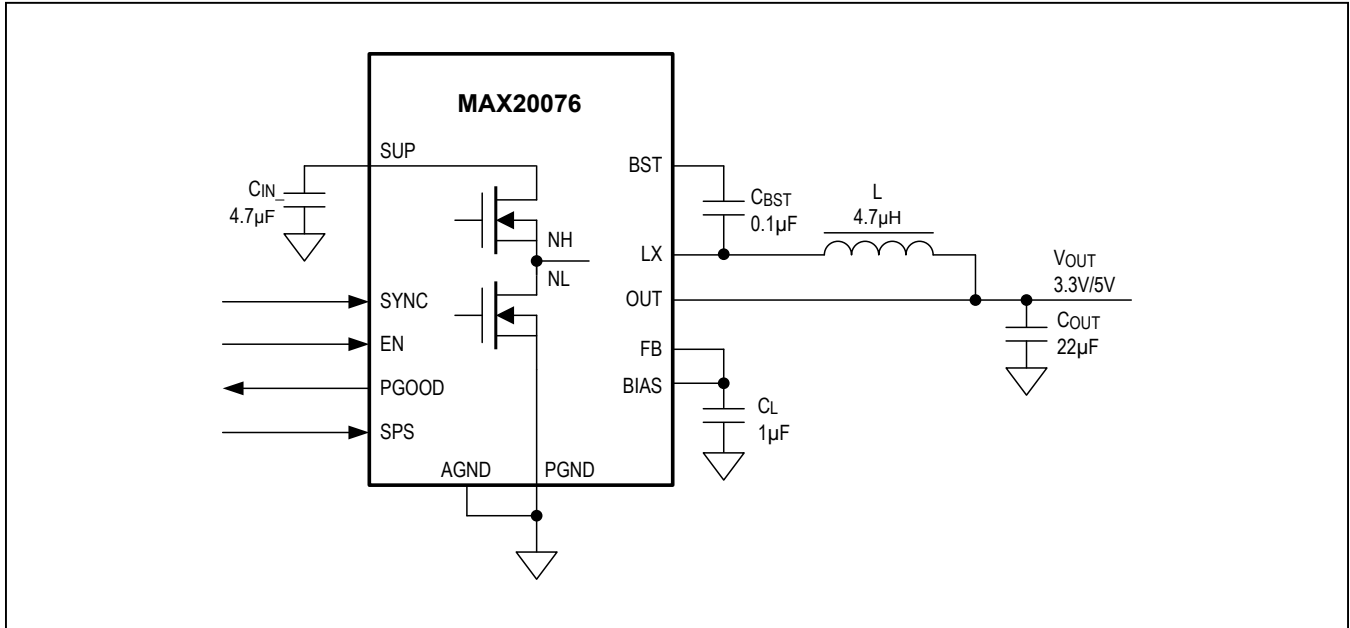
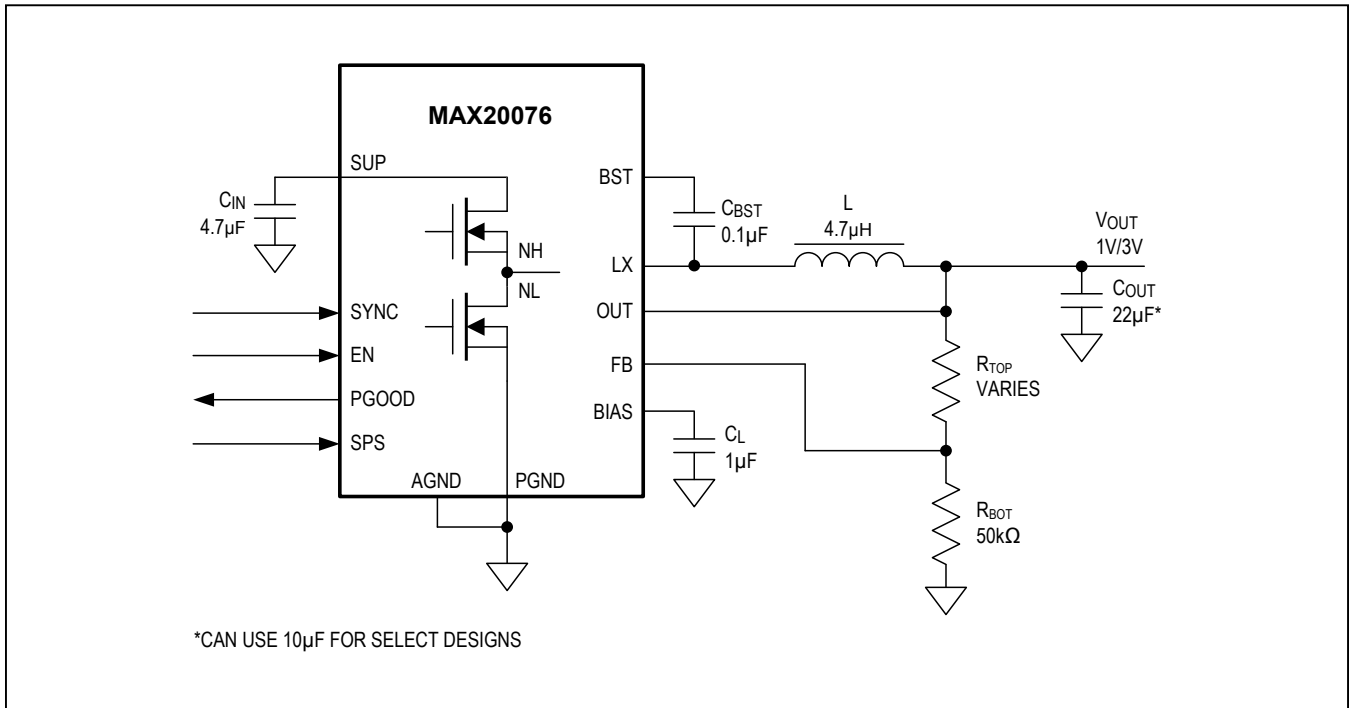
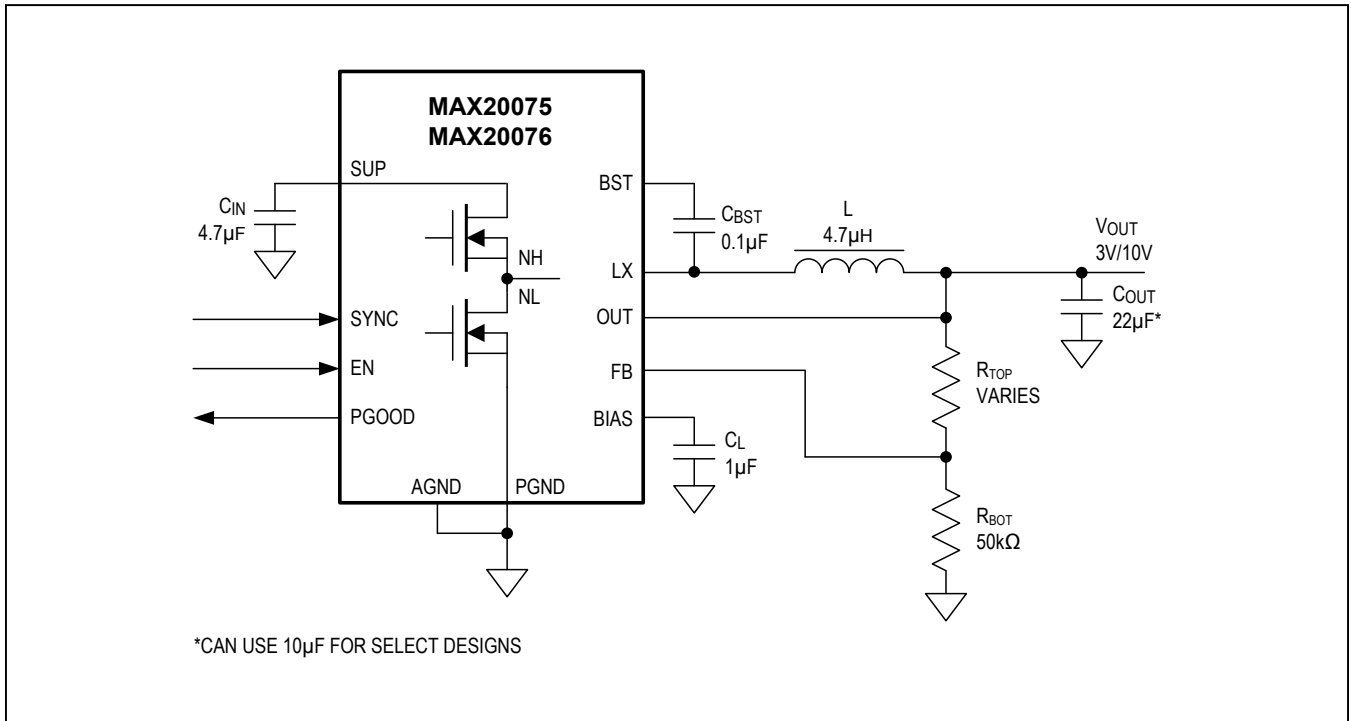

Figure 2. MAX20076 3.3V/5V Fixed 1.2A Output in 12-Pin TDFN Package
Figure 3. MAX20076ATCC/V+ 1V/3V Variable 1.2A Output in 12-Pin TDFN Package
Figure 4. MAX20075/MAX20076 3V/10V Variable Output
- 1) The input capacitor (4.7 $\mu$ F, see Figure 2, Figure 3, and Figure 4) should be placed right next to the SUP pin. Since the MAX20075/MAX20076/MAX25276 operate at 2.1MHz switching frequency, this placement is critical for effective decoupling of high-frequency noise from the SUP pins.